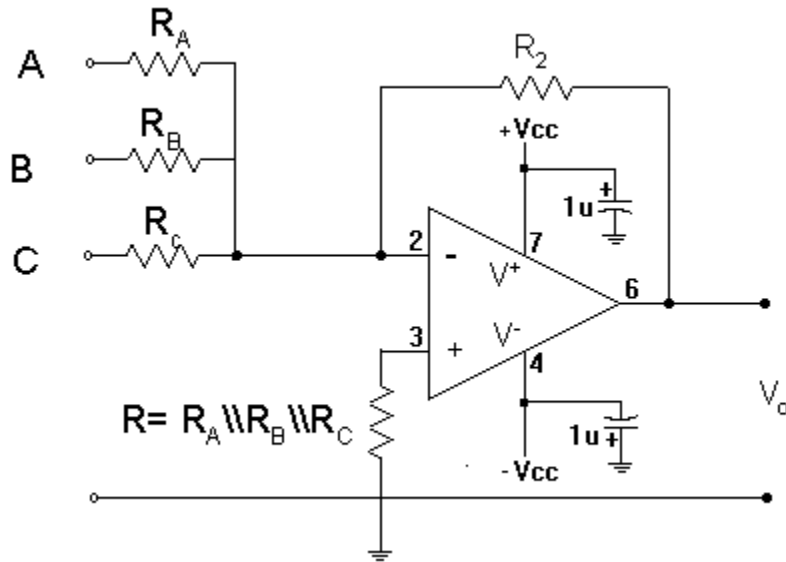

Figure 8-7 Inverting Summer Circuit
5. For the Ideal Inverting Summer circuit of Figure 8-7, determine the equation for  $V_o$  in terms of  $R_A, R_B, R_C, R_2, V_A, V_B$ , and  $V_C$ . (Also enter this equation in Part IV-2 on the Data Sheet.) (10 points)
- Construct the circuit in Figure 8-7.